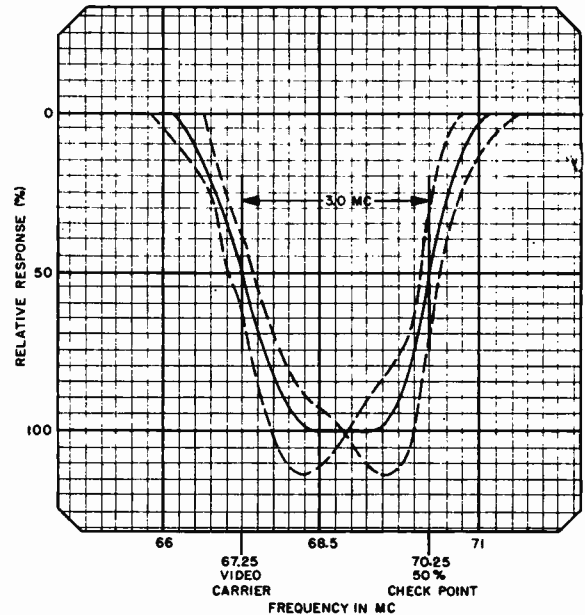

Figure 8. Over-all R-F, I-F Response Curve, Showing Tolerance Limits
5. If the response curve does not fall within the limits shown in figure 8, the adjustment of the tuning cores may be touched up slightly, while observing the response curve with the sweep generator. Do not retouch the setting of TC200 and TC203. To adjust the curve, adjust TC201 and TC204 for proper video carrier level. The top of the curve may be leveled by adjusting TC205, and the low-frequency side of the curve may be adjusted by adjusting TC202. By means of these adjustments the response curve should be brought within the limits shown in figure 8.